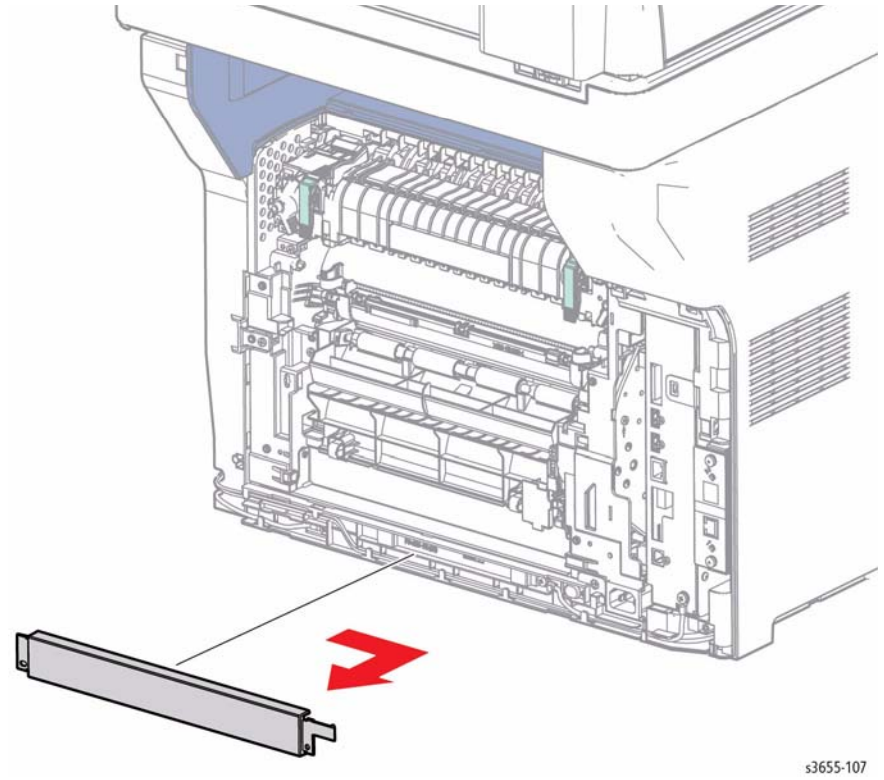

Figure 1 Remove the Lower Rear Cover
7. Refer to Figure 1 to locate and release 1 hook and slide the cover left to remove.